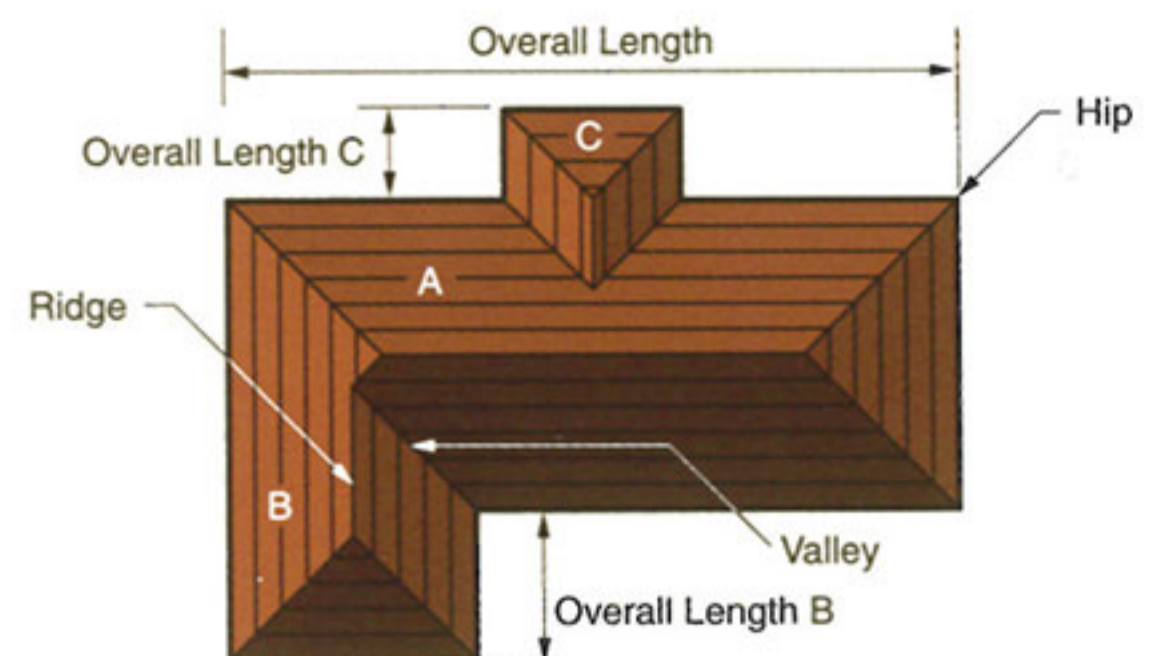

Fig 5.2.2
- HIP AND VALLEY ROOFS:** First take the section with the longest rafters (section A Fig 5.2.2). From Table 5.1 calculate the requirements for that section and then for the remaining sections (sections B and C in Fig 5.2.2). Find the total length of hips and valleys and using the formula outlined in (iii), calculate the additional tiles required for hips and valleys to obtain the total tile requirement.